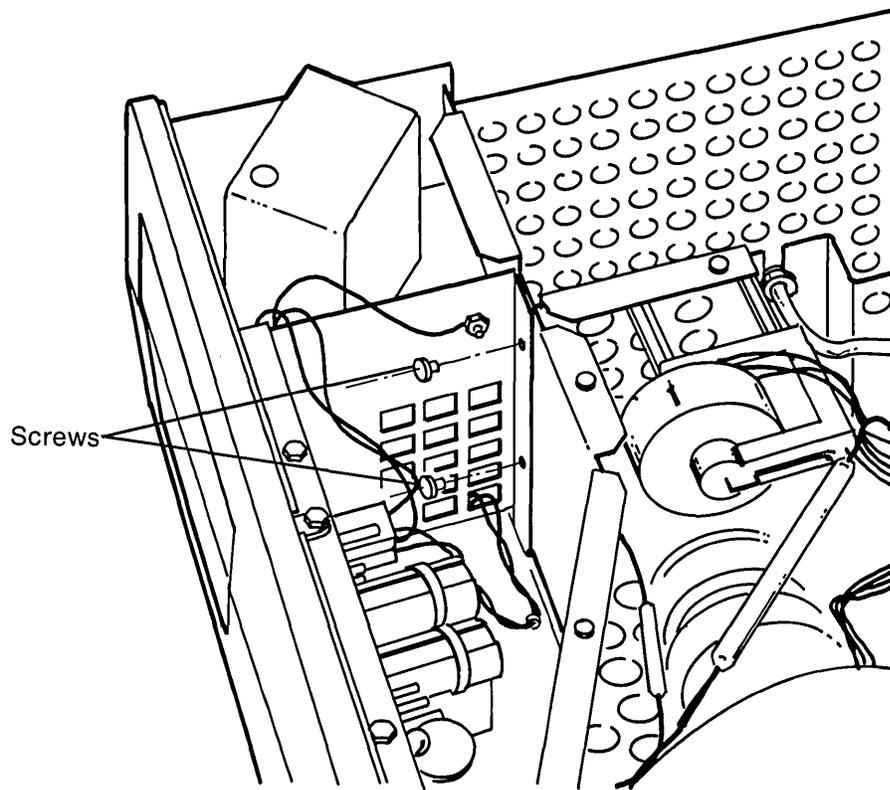

Figure 7-33. Removing Screws Which Hold the VDU Assembly to the Power Supply Housing.
Remove the two (2) screws securing the VDU assembly to the wall of the fan assembly housing (see Figure 7-33).